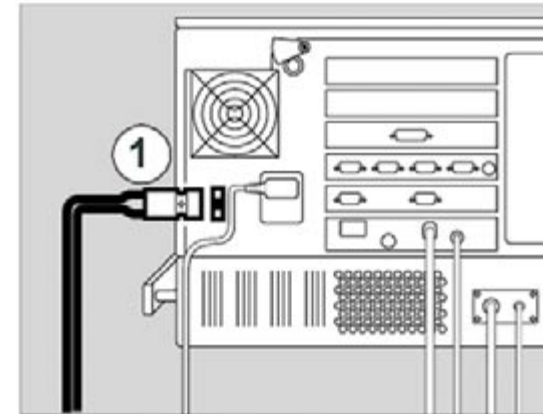

Fig. 13 Rear view of the power pack, external battery connector
- 17 Connect the external battery connector (Fig. 13/1) to the rear panel of the power pack.